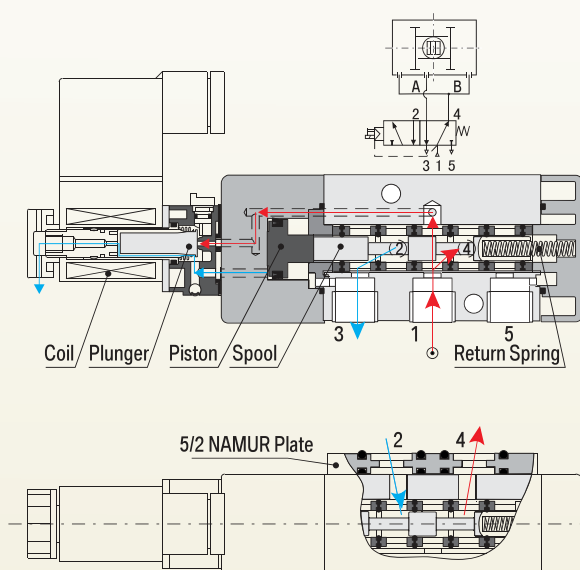

Fig.2 Coil de-energized
-Coil De-energized: From Fig.2, we can find that when the coil is de-energized, a spring on the plunger will return the plunger to its seat, blocking internal pilot air, and open a vent port. This vent port will allow the air on the piston to escape, and the return spring will return the spool to its normal position. In this position, the spool directs flow of supply air from inlet port 1 to outlet port 4 while outlet port 2 is connected to exhaust port 3. As for the standard assembly, the outlet port 4 is connected with port B of actuator. The air from outlet port 4 will return the pistons of actuator to closed position without electric power on the coil.